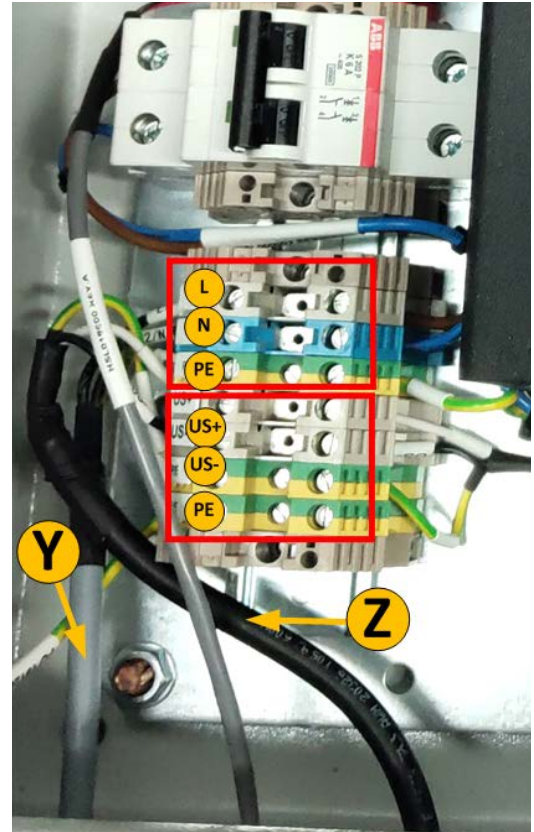

Figure 5-27: Ultrasonic Cleaner Module Terminals
- Step 2.** Connect the Ultrasonic Cleaner **(Z)** cable's White wire to the **US+** port on the Ultrasonic Cleaner Module terminal in **Figure 5-27**.
- Step 3.** Connect the Ultrasonic Cleaner cable's Black wire to the **US-** port on the Ultrasonic Cleaner Module terminal in **Figure 5-27** to the right.